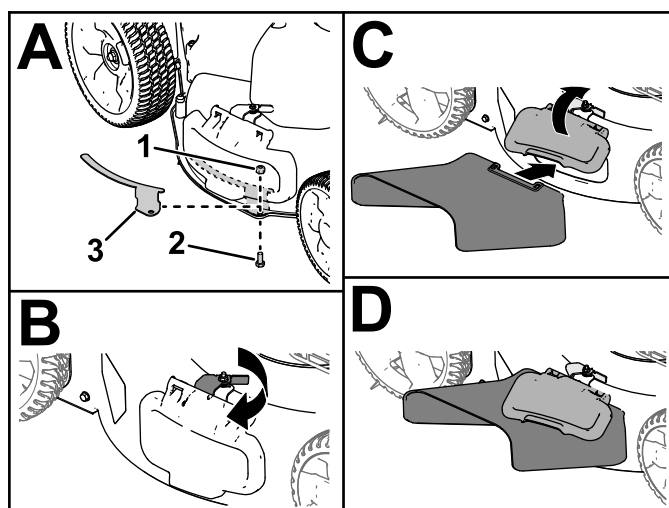

Figure 19
1. Remove the side-discharge deflector bracket and fasteners (A of Figure 19).
2. Unlatch and lift up the side deflector and install the side-discharge chute (B, C, and D of Figure 19).
Important: Install the deflector bracket when not using the side-discharge chute (A of Figure 19).